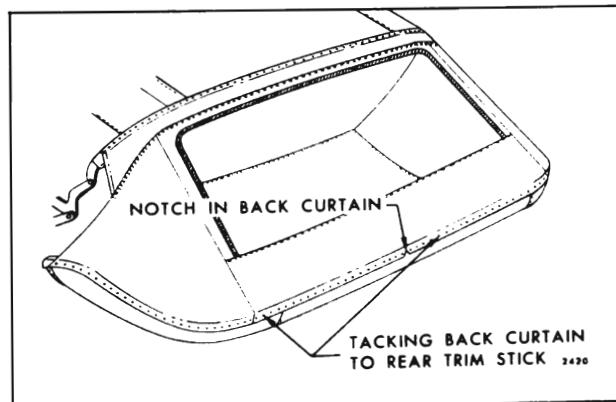

Fig. 13-17—Back Curtain Installation
NOTE: Notch in back curtain material at lower edge indicates centerline of back curtain assembly (Fig. 13-17). In addition, back curtain lower edge should extend approximately 1/2" below lower edge of trim sticks.
8. Tack curtain to rear trim sticks (Fig. 13-17).